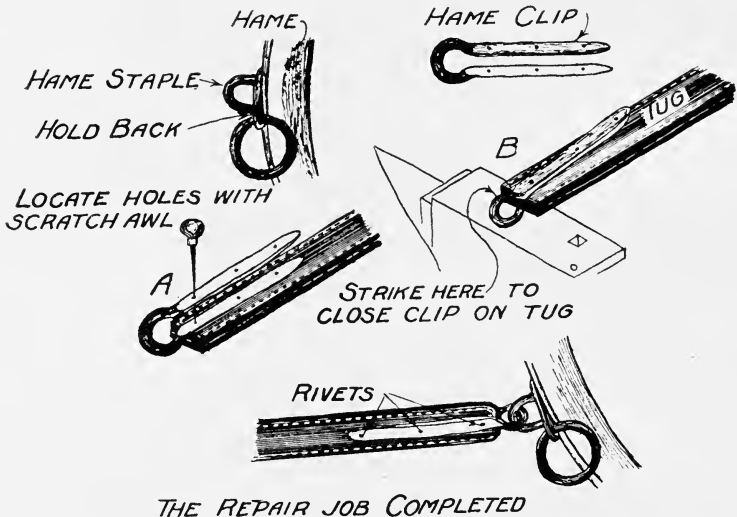

Fig. 18. Replacing a Hame Clip on a Tug.
2. Place the new clip on the tug in the position which it is to assume when riveted, A, Fig. 18, and mark the holes for the rivets with the scratchawl.
5. Draw the hame clip tight against the leather by placing the ring of the clip on the anvil and striking the other side of the ring firmly with the hammer. B, Fig. 18.
2. Place a clip on the trace in the position which it is to assume when riveted, A, Fig. 18, and mark the places for the rivets with the point of a scratchawl.
5. Place the head of the clip on the anvil, vise or other metal support and firmly strike the other edge of the head with a hammer, thus drawing the clip tight on the leather. B, Fig. 18.
2. Place the hame clip on the trace and mark the places for the rivet holes A, Fig. 18.
Place the clip on the anvil, vise or other solid metal support and close it tight on the trace by a blow of the hammer, B, Fig. 18.